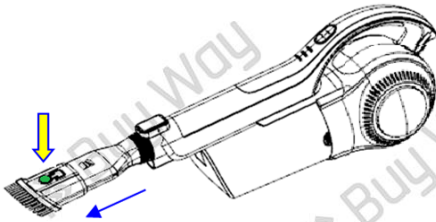

Fig. 11
- Press the small round button on the center of the accessory and slide the bristle brush head down until it clicks into place, when you want to have a more thorough cleaning (see fig. 11).